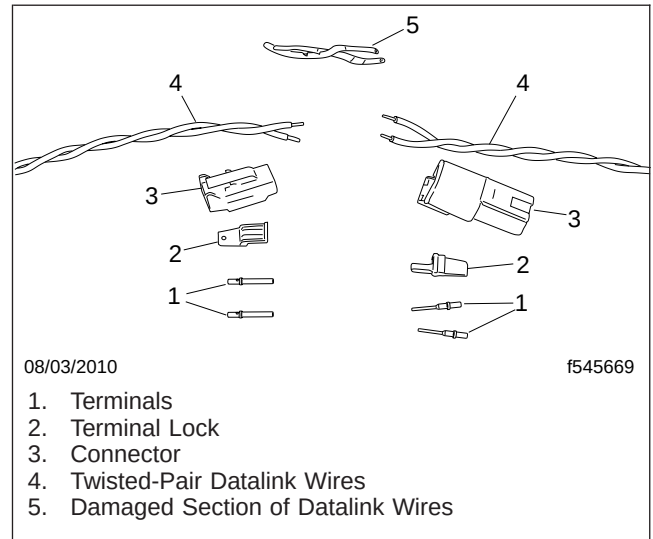

Fig. 1, Datalink Splice Parts
1. Cut out any damaged section of datalink wire, keeping the lengths of the two wires equal. See Fig. 1 for an example of a damaged section of datalink wire that has been removed and the datalink prepared for repair.